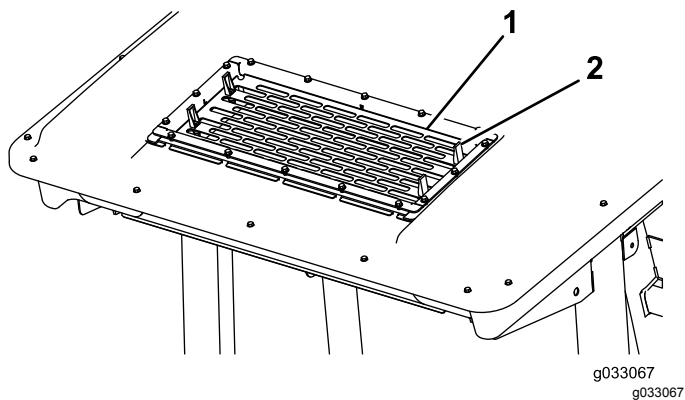

Figure 56
2. Lift the 4 tabs on the air-conditioning screen (Figure 56) and remove the screen from the top of the cab.